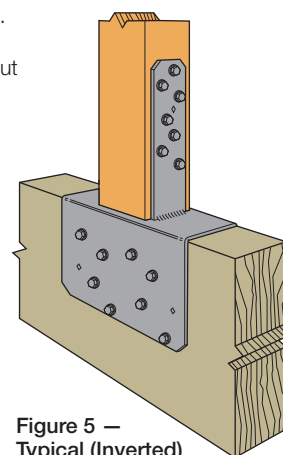

Figure 5 — Typical (Inverted) CCQ44SDS2.5 Post-to-Beam Installation
- Post caps may be installed inverted for post-to-beam applications. The designer is responsible for evaluating the beam to ensure it is capable of receiving all loads applied by the post. (Figure 5)